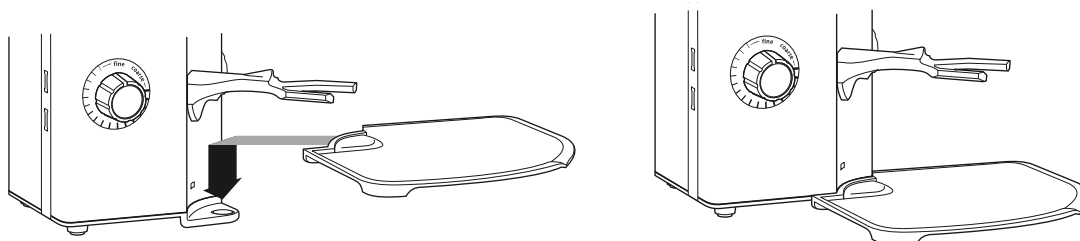

Fig 4.1
- Fit the coffee residue tray into its specially designed housing in front of the appliance (fig 4.1).